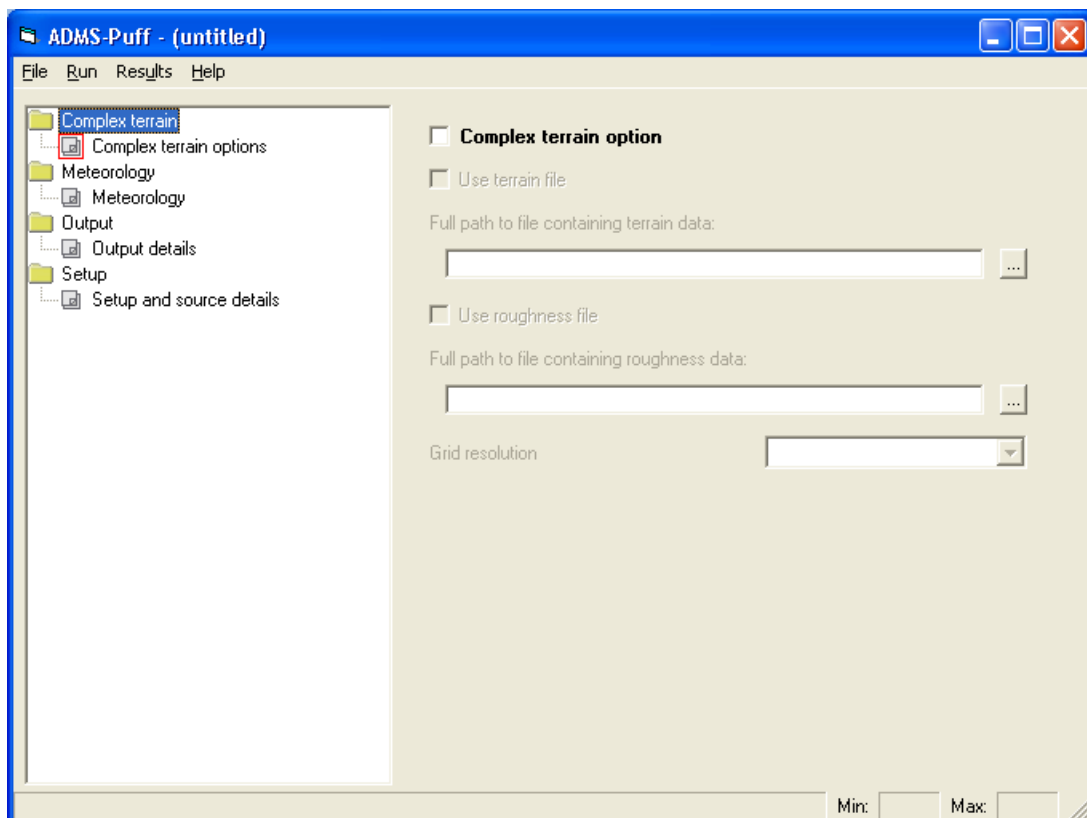

Figure 17: The initial screen after starting ADMS-Puff.
1. To start ADMS-Puff, double click on the AdmsPuff.exe file in your install directory. The initial screen is as shown in Figure 17.